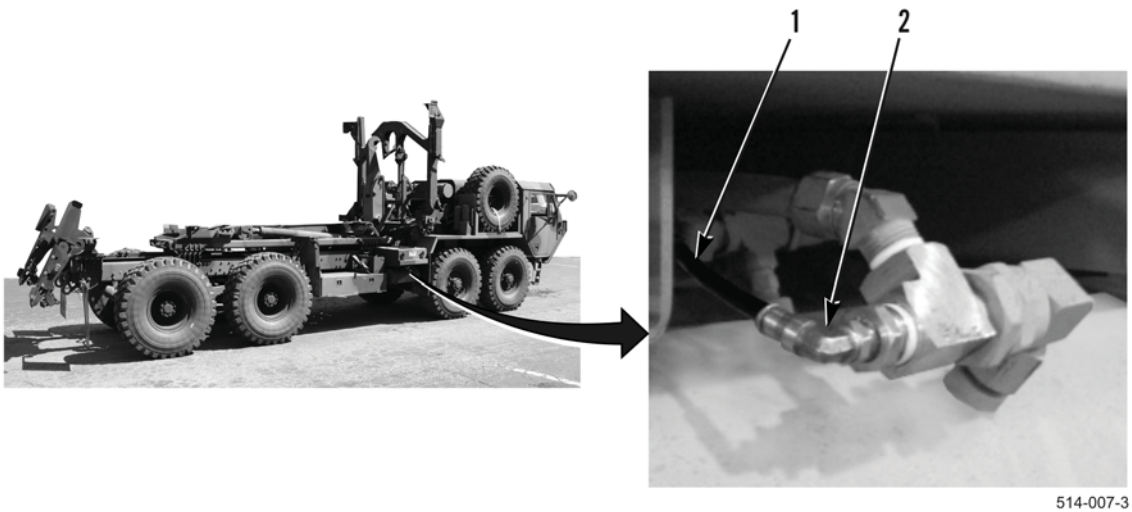

Figure 3. HEMTT M1120A4 Air Tank Hose Removal.
4. Disconnect pneumatic hose (Figure 3, Item 1) from press-lock fitting (Figure 3, Item 2).